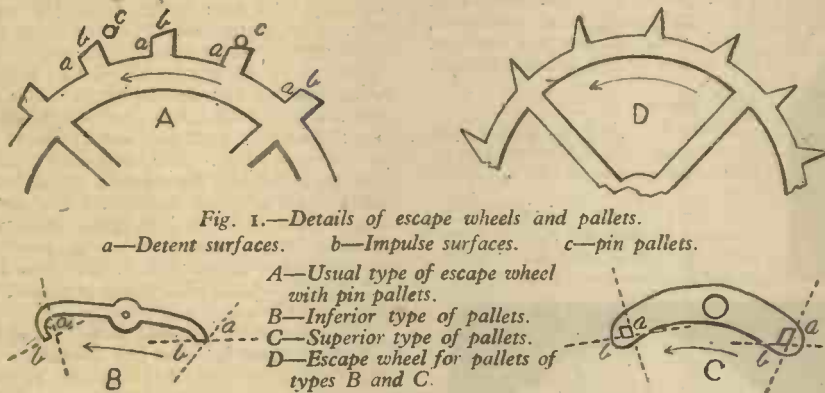

Fig. 1.—Details of escape wheels and pallets.
**B**EFORE the assembly of the escapement is undertaken it is necessary that the principle on which it works should be understood. In the first place it is double-acting—it performs two functions—one to hold up the train so that it does not run down faster than the regulated speed, nor faster than the balance wheel will let it, in fact, and two, to keep the balance wheel moving. For this purpose the teeth of the 'scape wheel (or in some models, the pallets) have two bearing surfaces each (see Fig. 1)
The balance wheel and hair-spring having been correctly assembled, the lever may now be taken in hand. It should be taken from the benzine and thoroughly cleaned with pith, particular attention being paid to the pivots, pallets and inside of the fork. Most alarm clocks have pin pallets, that is the pallets consist of two hardened steel pins mounted upright in a brass base, but some makes have hardened steel pallets of a different pattern based on what is known as the anchor escapement (see Fig. 1, two